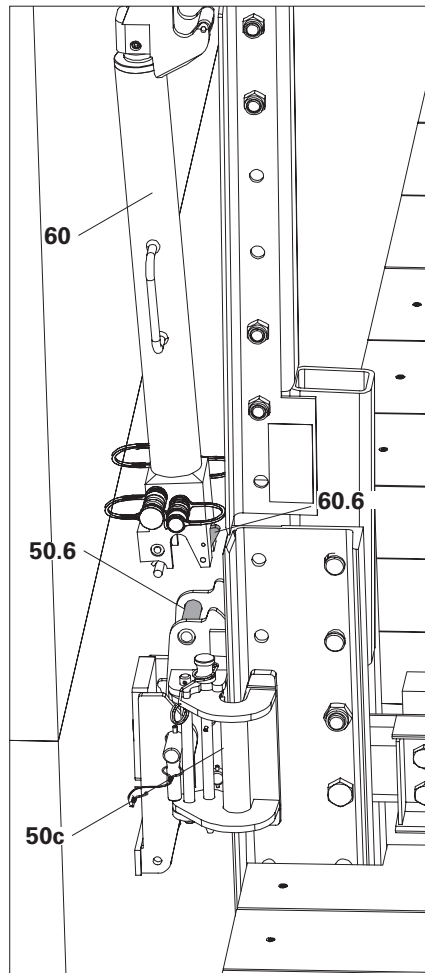

Fig. D6.04
1. Position the Climbing Device RCS (**60**) on the bolts (**50.6**) of the upper climbing shoes (**50c**) and engage. The climbing device is pressed against the climbing rail through spring force. Guide the claw into the climbing rail. (Fig. D6.04 + D6.05)